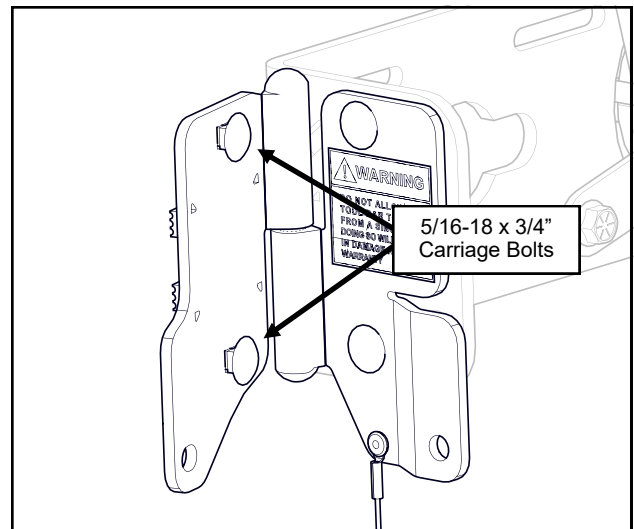

Fig. 5 (Place Bar Brackets & bolts)
5. Slide a Bar Bracket from the quick release kit onto each pin and insert two 5/16-18 x 3/4" carriage bolts through the square holes in each bracket (see figure 5). Rotate the bracket parallel to the pin bracket.